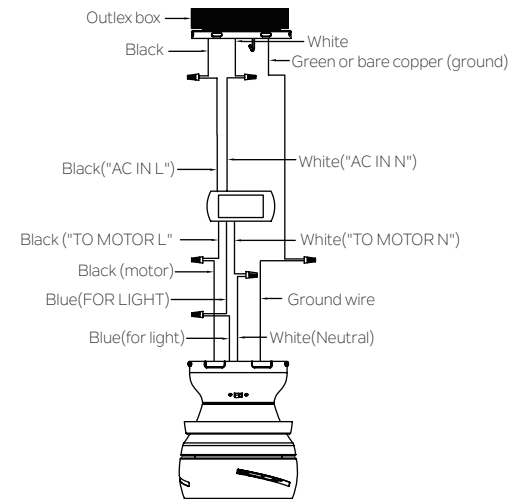

Fig. 10
**Step 2.** Motor to Receiver Electrical Connections: Connect the BLACK wire from the fan to BLACK wire marked "TO MOTOR L" from the receiver. Connect the WHITE wire from the fan to the WHITE wire marked "TO MOTOR N" from the receiver. Connect the BLUE wire from the fan to the BLUE wire marked "FOR LIGHT" from the receiver. Secure all the wire connections with the plastic wire connectors provided. (Fig. 10)
**Step 3.** Remote Receiver to Outlet Box Electrical Connections: Connect the BLACK (hot) wire from the ceiling to the BLACK wire marked "AC IN L" from the receiver. Connect the WHITE (Neutral) wire from the ceiling to the WHITE wire marked "AC IN N" from the receiver. Secure all the wire connections with the plastic wire connectors provided. (Fig. 10)